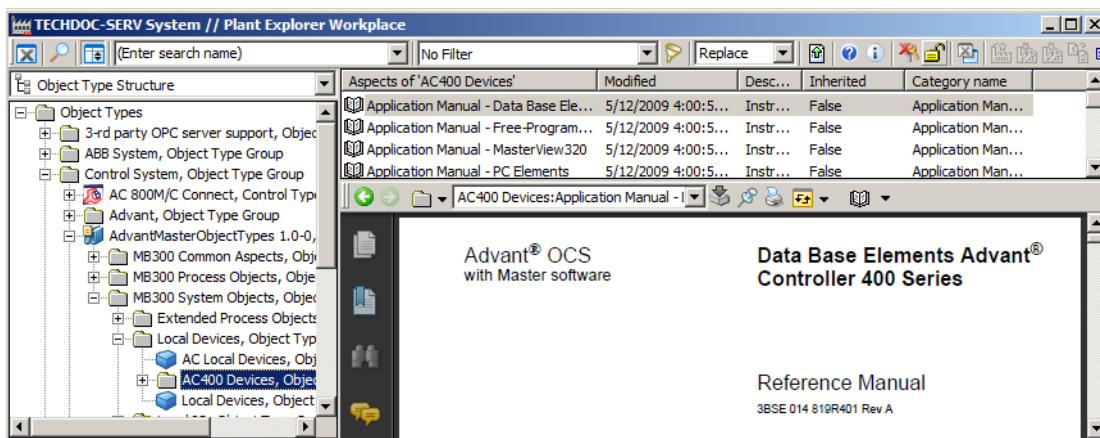

Figure 3. Documentation
- Via object type specific bookmarks available as aspects in the Control Structure on the uploaded Advant Master objects. The manuals can also be opened via the context menu on Advant Master objects in the System Status viewer. See Figure 3 below.